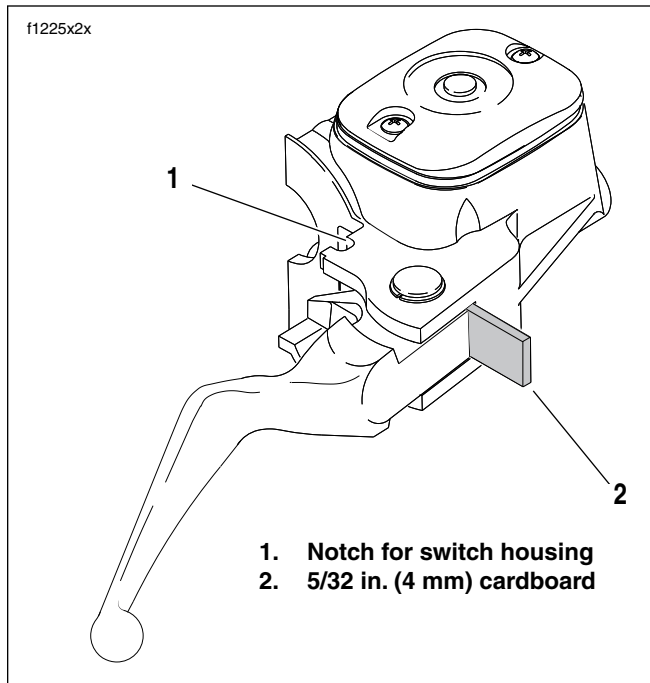

Figure 2-10. Cardboard Insert
4. See Figure 2-10. Squeeze front brake lever and insert a 5/32 in. (4 mm) thick cardboard insert between front brake lever and lever bracket.